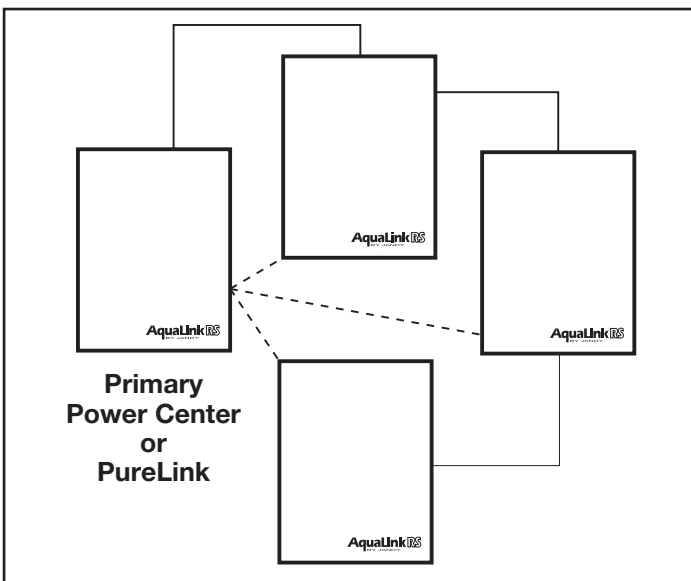

Figure 22. Wiring Multiple Power Centers
1. The auxiliary power centers may be wired “in series”, starting from the primary power center (solid line) or wired “in parallel” from the primary power center (dashed line). See Figure 22.